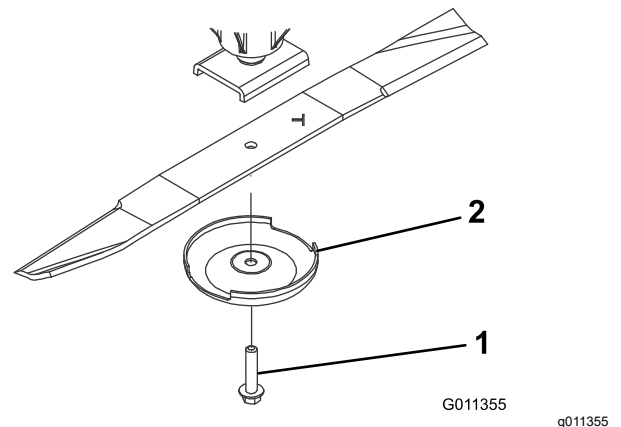

Figure 101
3. Remove the blade bolt, anti-scalp cup, and blade from the spindle shaft (Figure 101).